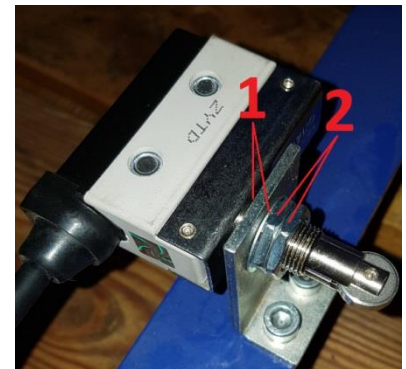

Fig. 9
1. Remove the nuts and washers (1+2, fig.9) from the limit switch.
2. Now place a washer (1, fig.9) over the threaded wire of the limit switch and place the limit switch through the hole.
3. Now place the other washer (1, fig.9) over the threaded wire and then secure the limit switch using the two nuts (2, fig.9).